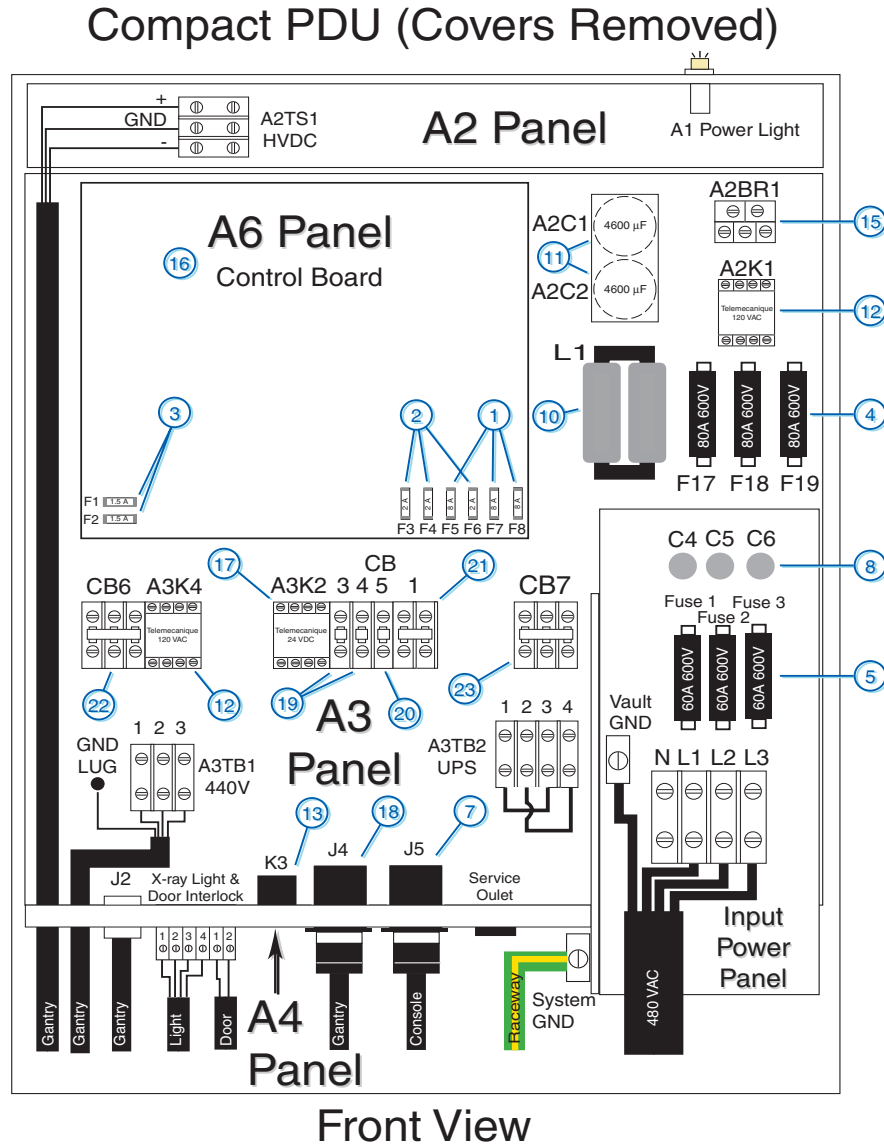
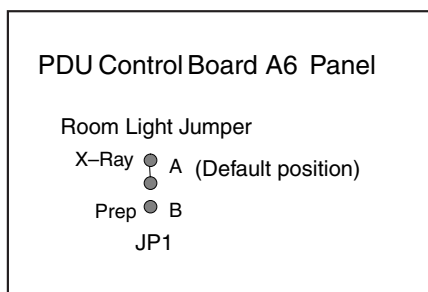

Figure 2-23 PDU Cable Connections - Front
Figure 2-32 X-ray Light Configuration
Some cables must be installed throughout the PDU (see Figure 2-23). Specific details on each connection are found in the sub-sections that follow. Use Figure 2-23 for reference. The PDU was designed to have cables routed into the PDU from behind and/or beneath it.
When Mains power is available to the PDU, the “A1” power light is illuminated (see Figure 2-23).
Connect the internally shielded HVDC cable to A2TS1 on the A2 panel. (See Figure 2-23 for the location of the connector and Figure 2-28 for details.) Observe polarities and grounds.
Connect the internally shielded 440 V cable from the gantry to A3TB1 on the A3 panel. (See Figure 2-23 for the location of the connector, and Figure 2-28 for details.) Observe the labels on the cable leads for proper identification and orientation.
Connect the ground wire (green with a yellow strip) from the table/gantry raceway ground bus to the system ground lug in the PDU (see Figure 2-23, and Figure 2-31).
- 1.) Configure the PDU control board for the correct X-ray light operation. Determine whether the X-ray light should come on when high voltage is present, or when X-ray is present. The board is shipped with the X-ray light turning “ON” when X-ray is present only. To change this, go to the PDU Control Board (see Figure 2-23), and move the jumper from position A to position B (see Figure 2-32). In the B position, the X-ray light illuminates whenever high voltage is present.